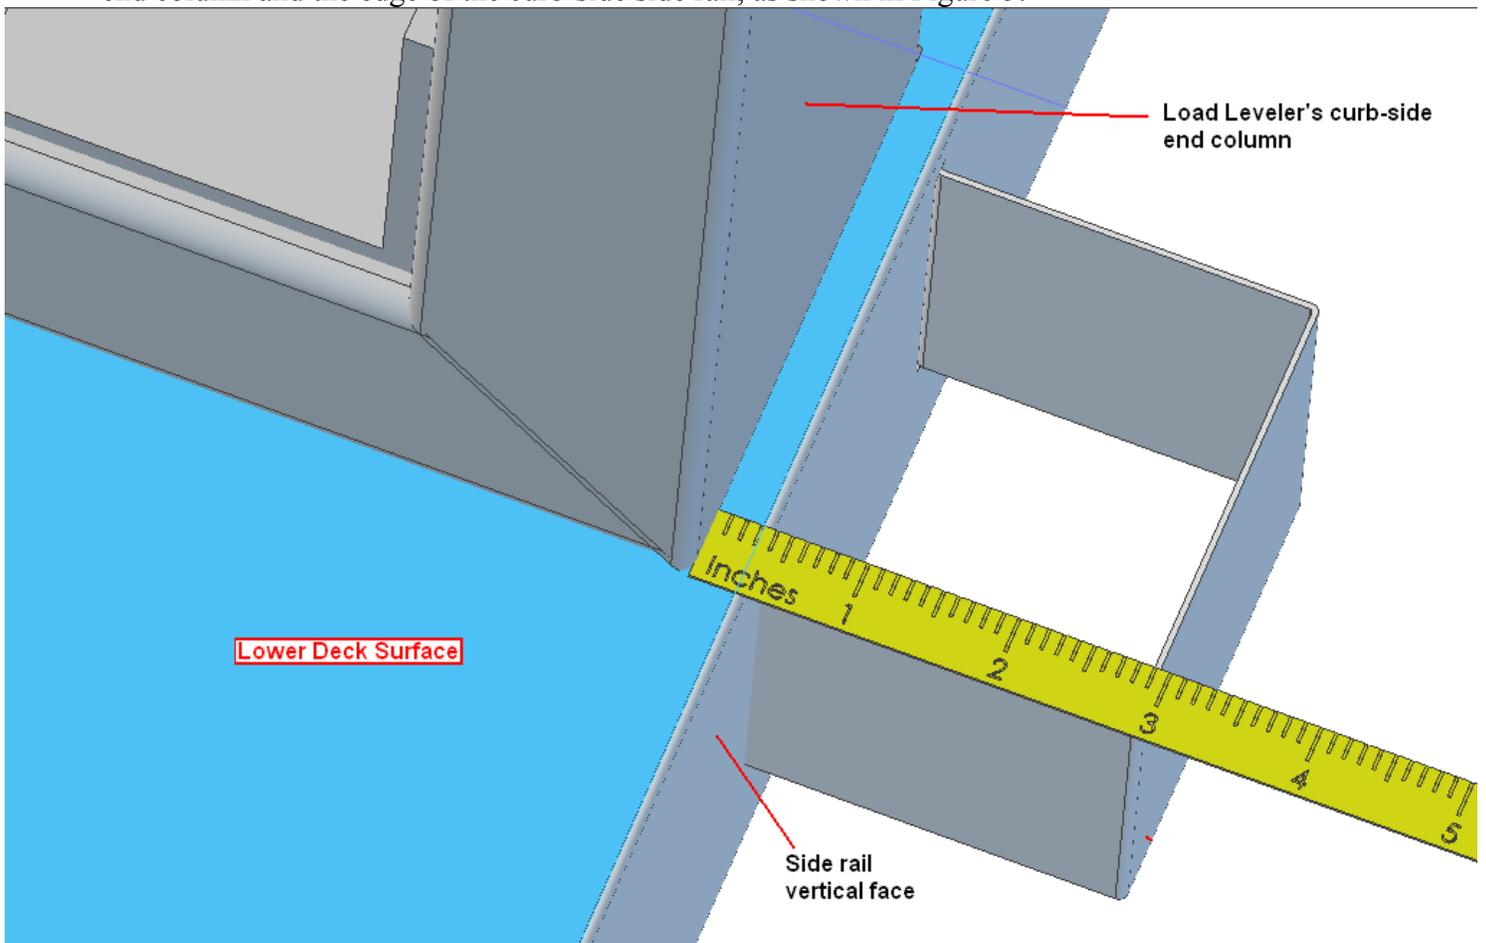

Figure 5: Measuring the distance between a Load Leveler's curb-side end and the edge of the curb-side side rail
3) Using the tape measure, measure the distance between the outer edge of the Load Leveler's "curb-side" end column and the edge of the curb-side side rail, as shown in Figure 5:
4) With shim plates handy, select the combination necessary in order to shim outward to the side rail by an amount equal to or just beyond the measured value. For example, if the measurement in Figure 5 above was either $5/16''$ or $3/8''$, use one $1/4''$ -thick and one $1/8''$ -thick shim to cover a $3/8''$ distance for either scenario.
5) With the remaining components set aside from Step (1) handy, align the holes in the end column with the holes in the shim plates selected in Step (4), and insert one (1) of the hex bolts into the highest hole on the end column's interior face, and through the aligned shim plate holes. Then, place the Stake Post's highest hole in line with this bolt and push all the way into contact with the outer shim plate – do not secure this bolt with a hex nut, as it will serve only as a support-hold for the shims and Stake Post until the other two bolt/lock nut/hex nut sets are installed correctly in the next step.